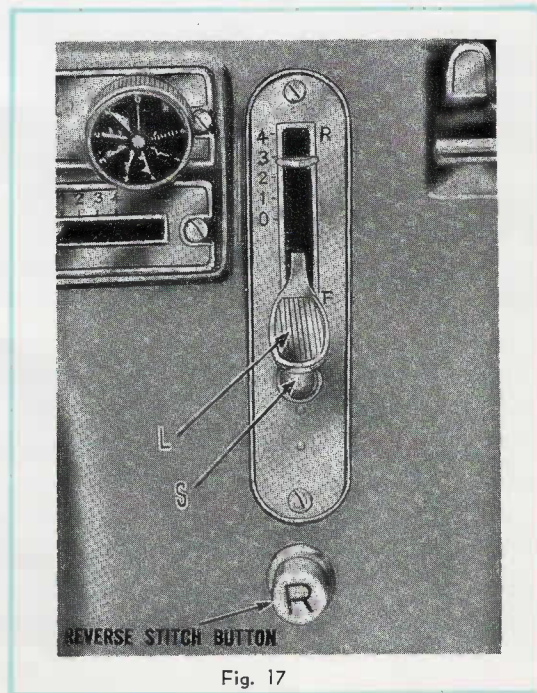

Fig. 17
The length of the stitch can be changed by adjusting the stitch length regulating lever "L" (Fig. 17).
3. Set stitch length regulating lever "L" (Fig. 17) so that the indicator is at number 1.